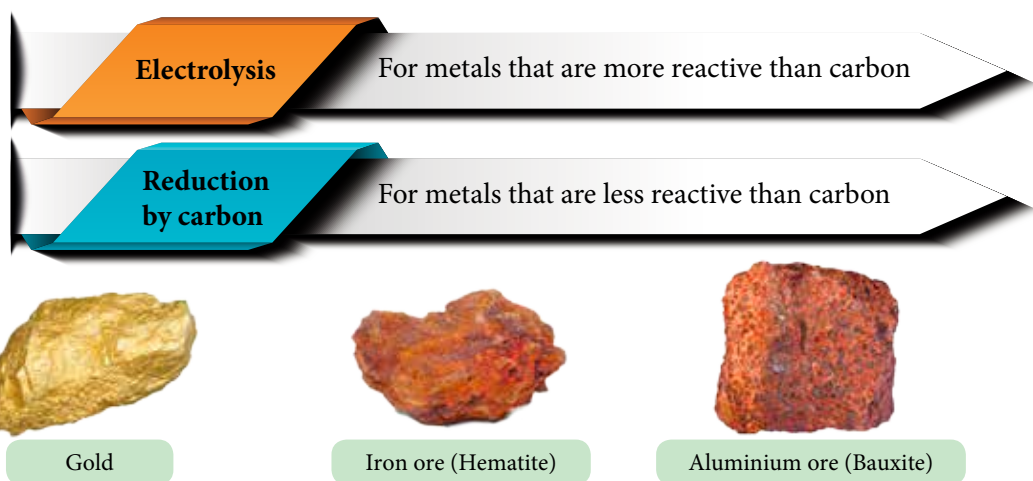

Figure 1.36 Naturally occurring metal and ore
- Metals usually exist as compounds or mixed with other substances, such as rocks and dirt. Compounds containing metals are also known as ore or mineral and exist as metal oxides, metal sulphides or metal carbonate. Figure 1.36 shows the examples of naturally occurring metal and ore.